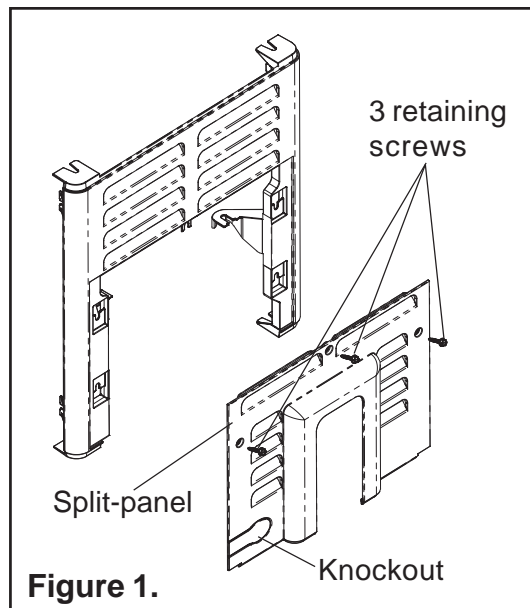

Figure 1.
1. Remove the three (3) retaining screws from the heater front panel and remove the small front split-panel. Remove the knockout from the split-panel. See Figure 1.
7. Install the split-panel and secure with the three (3) retaining screws. See Figure 1.